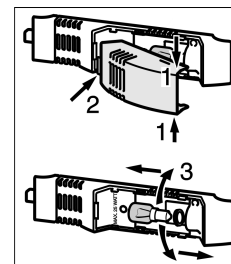

Fig. 8
- ▶ Take hold of the light cover at the top and bottom *Fig. 8 (1)*.
- ▶ Unclip light cover at the back and unhook *Fig. 8 (2)*.
- ▶ Replace the light bulb *Fig. 8 (3)*.